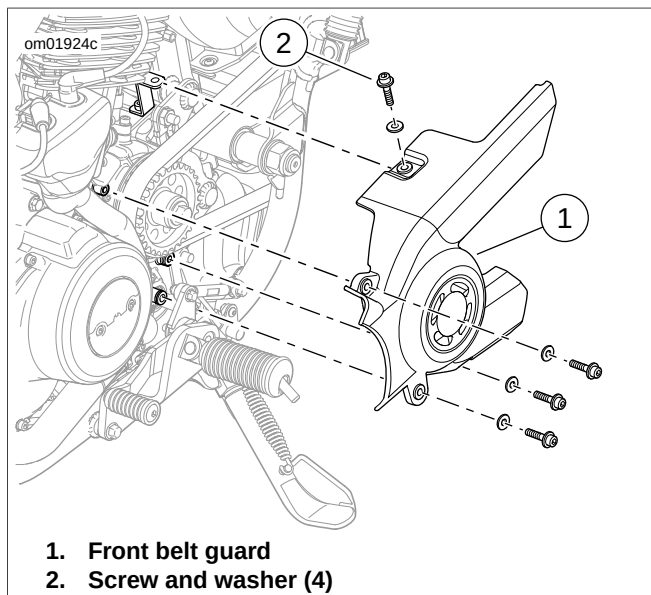
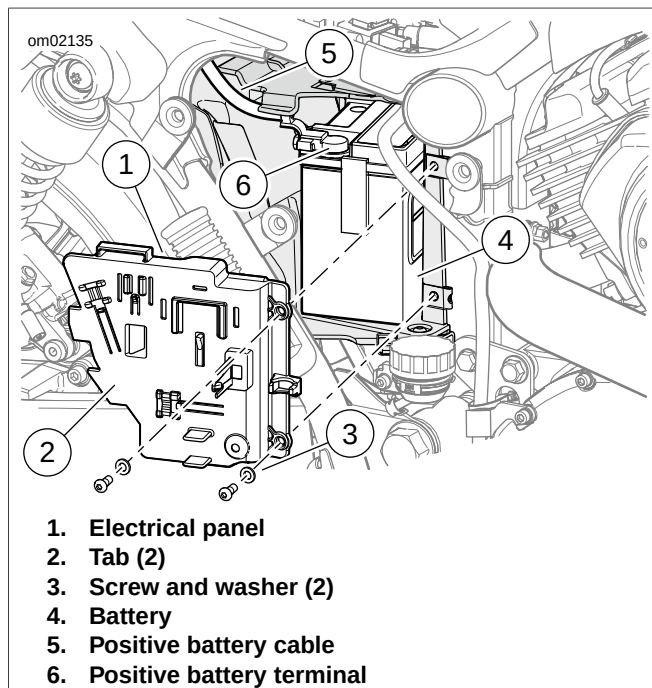
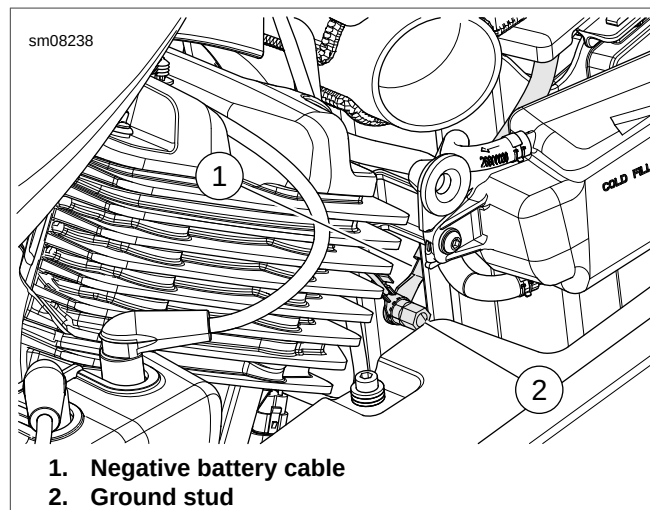

Figure 41. Front Belt Guard
Figure 42. Battery
Figure 43. Battery Ground Cable
7. See Figure 41. Remove front belt guard.
- a. Remove screws and washers (2).
- b. Remove front belt guard (1).
8. See Figure 42. Remove electrical panel.
- a. Remove screws (3).
- b. Carefully pull electrical panel (1) away from battery.
9. See Figure 43. Disconnect negative battery cable (1) from ground stud (2).
10. See Figure 42. Disconnect positive battery cable (5) from battery.
3. See Figure 42. Install battery (4) in battery box.
4. Connect the positive battery cable (5) to the positive battery terminal (6). Tighten to 6.8-7.9 Nm (60-70 **in-lbs**).
5. See Figure 43. Connect negative battery cable (1) to ground stud (2). Tighten to 6.0-7.5 Nm (54-66 **in-lbs**).
6. See Figure 42. Install electrical panel.
7. Verify electrical panel tabs (2) are inserted into slots.
8. Install screws (3). Tighten to 2.3-3.3 Nm (21-29 **in-lbs**).
9. See Figure 41. Position front belt guard (1). Install screws and washers (2). Tighten to 9.0-11.0 Nm (80-97 **in-lbs**).